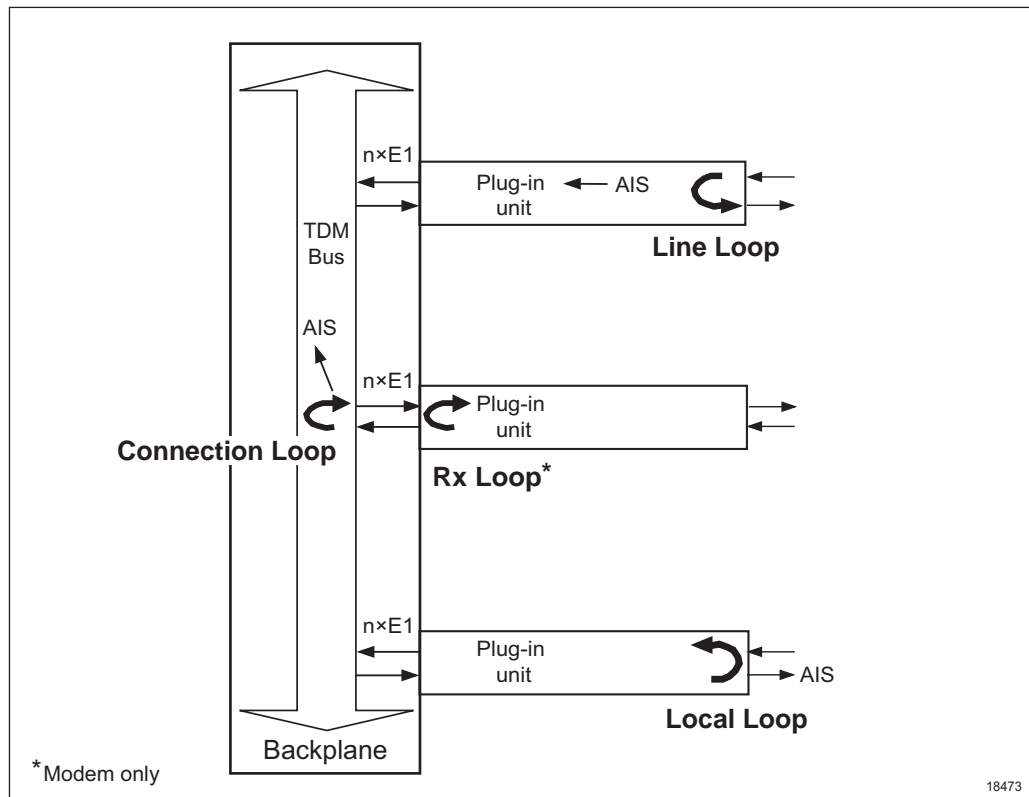
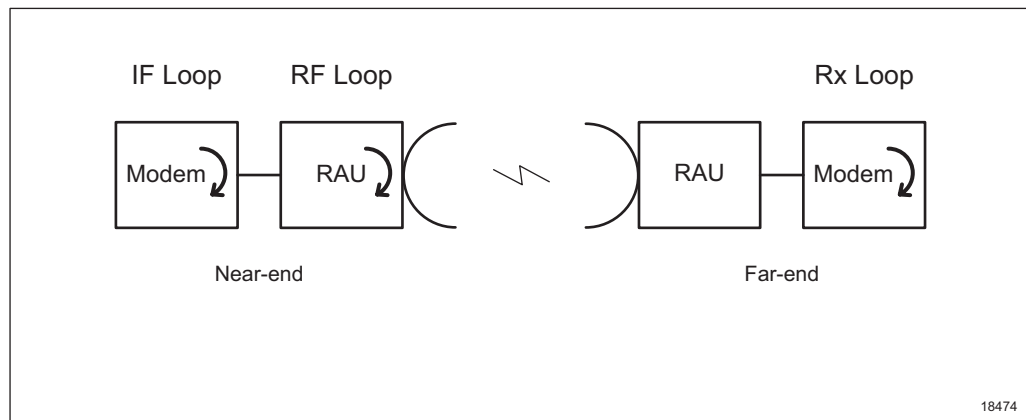

Figure 154 Loops
Figure 155 Radio Link Loops
Connection Loop	<p>This loop can be initiated for an E1/DS1. The traffic connection is looped in the TDM bus back to its origin, see Figure 154. If an E1/DS1 interface is traffic routed an AIS is sent to the other interface in the traffic routing.</p> <p>A Connection Loop can be used in combination with a BERT in another NE to test a network connection including the termination plug-in unit, in case a Local Loop cannot be used due to the lack of a traffic routing.</p>
Line Loop	<p>Loops an incoming line signal back to its origin. The loop is done in the plug-in unit, close to the line interface, see Figure 154. An AIS is sent to the TDM bus.</p> <p>A Line Loop in combination with a BERT in an adjacent NE is used to test the transmission link between the two NEs.</p>
Local Loop	<p>Loops a line signal received from the TDM bus back to its origin, see Figure 154. An AIS is sent to the line interface.</p> <p>A Local Loop in combination with a BERT in another NE can be used to test a connection as far as possible in the looped NE.</p>
Rx Loop	<p>This loop is similar to the Connection Loop but the loop is done in the plug-in unit close to the TDM bus, where a group of E1s in the traffic connection is looped back to its origin, Figure 154. Traffic on high-speed bus is not affected.</p> <p>An Rx Loop can be used on the far-end modem/MMU to verify the communication over the radio path, see Figure 155.</p>
- IF Loop** In the modem/MMU the traffic signal to be transmitted is, after being modulated, mixed with the frequency of a local oscillator and looped back for demodulation (on the receiving side). See Figure 155.
- RF Loop** In the radio, a fraction of the RF signal transmitted is shifted in frequency and looped back to the receiving side. See Figure 155.